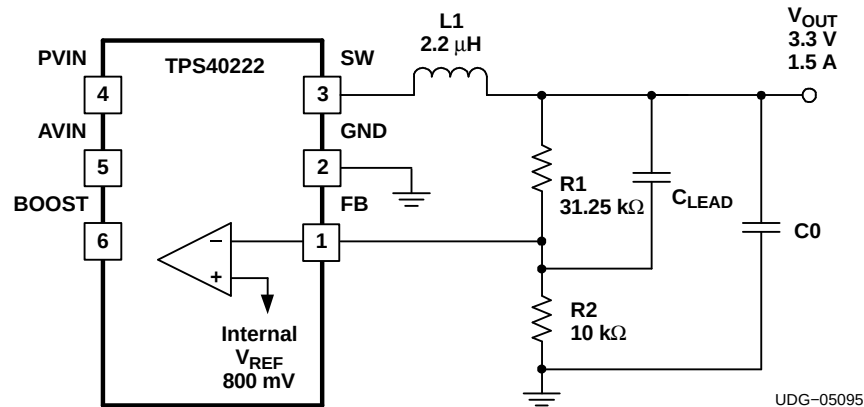

Figure 10. Output Stage
Since the loop compensation is internally fixed and cannot be changed, loop stability can only be controlled by the proper choice of output inductance and capacitance. Table 2 provides a shortcut guide to this selection and recommended capacitance to maintain a safe 50 degrees of phase margin for various inductors and output voltages. The table also shows the minimum capacitance for 50 degrees of phase margin at three temperatures, with the worst case for stability at -40°C. The granularity of the table is sufficient so the user can interpolate between values to find a specific operating condition. The table values assume a full load, which is also the worst case for phase compensation. As an example of using the table, consider a 2.5-V output converter with a 2.2-μH inductor. The table shows that a minimum of 15-μF of output capacitance is required to guarantee greater than 50 degrees of phase margin at the worst case temperature of -40°C. With a lead capacitor (C_{LEAD}) added to the feedback as shown in Figure 10, this minimum capacitance increases to 26-μF and the closed-loop frequency increases by about 20%.
(1) See Figure 10.
(2) For $V_{OUT} > 3.3\text{ V}$ use an inductor with a value greater than or equal to 2.2 μ H.
In most applications, the user starts with a known output voltage and current load requirement as shown in Figure 10.
As shown in Figure 10, the trimmed reference voltage is internally connected to the error amplifier. Since the input bias current to this error amplifier is negligible. The feedback resistors R1 and R2 can be selected over a broad range limited by the low bias current into the error amplifier. With this restriction in mind, R2 was selected at 10 kΩ, so its current is 80 μA and large relative to the bias current of the error amplifier. The output voltage is then given by Equation 4.